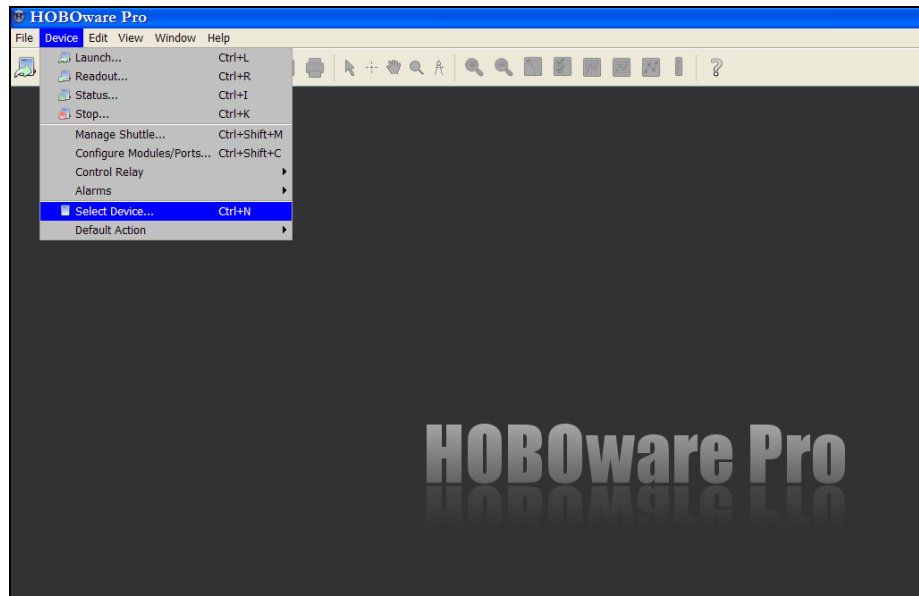

Figure 4. Choose 'Readout', the second option from the top.
- 3) Choose 'Readout' from the Device dropdown menu as seen in Figure 4, below.